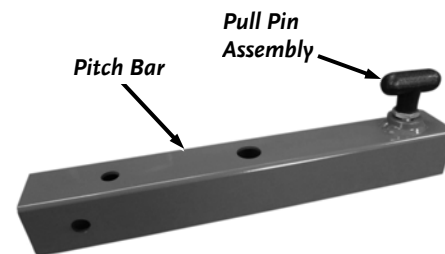

Figure 11
17. Install the Pull Pin Assembly into the Pitch Bar using a 7/8" Wrench (**Figure 11**)